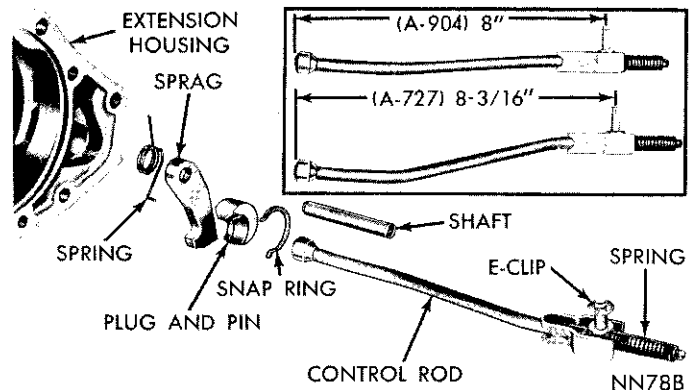

Fig. 27—Parking Lock Components
(1) Remove the extension housing.
(2) To replace the governor support and parking gear, refer to “governor and support”.
(3) Slide shaft out of extension housing to remove the parking sprag and spring (Fig. 27). Remove snap ring and slide reaction plug and pin assembly out of the housing.
(4) To replace the parking lock control rod, refer to “Valve Body—Removal and Installation.”
(1) Position sprag and spring in housing and insert the shaft (Fig. 27). Make sure square lug on sprag is toward the parking gear, and spring is positioned so it moves sprag away from the gear.
(2) Install reaction plug and pin assembly in the housing and secure with snap ring.
(3) Install extension housing.